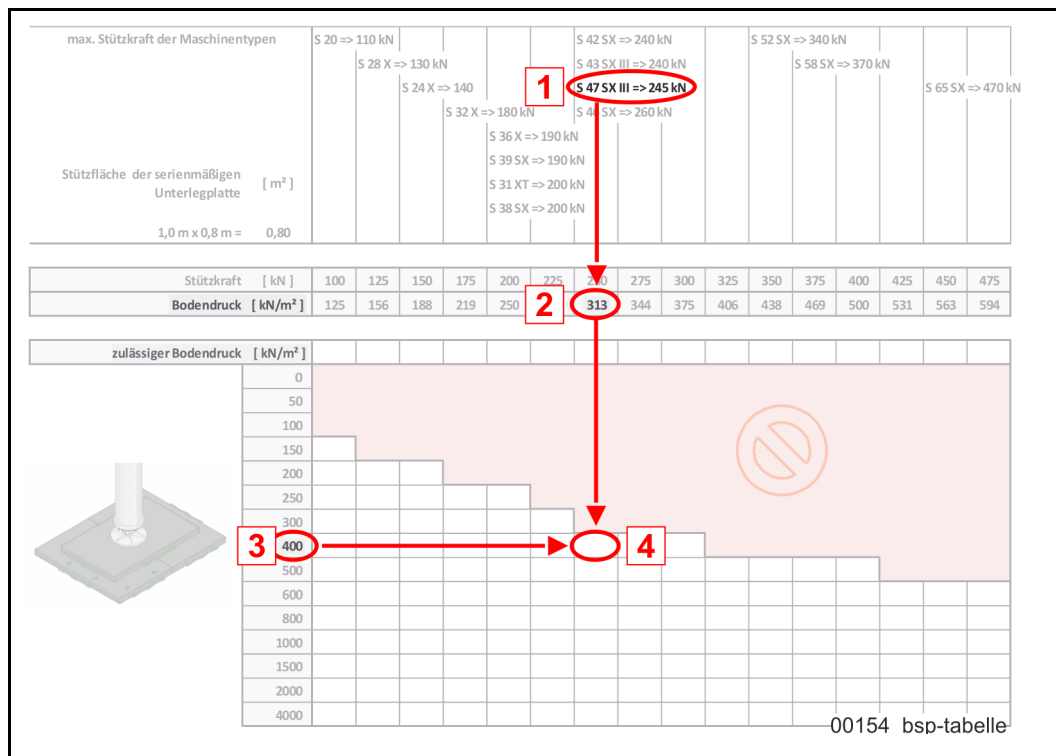

Fig. 130 Example table for an S47SX III
(Fig. 130) shows an example of how to use the tables.
In the text below, the positions of (Fig. 130) from (1) to (4) are given in the required order.
3. Find the table column in which your machine appears (1).
Legend for (Fig. 130)